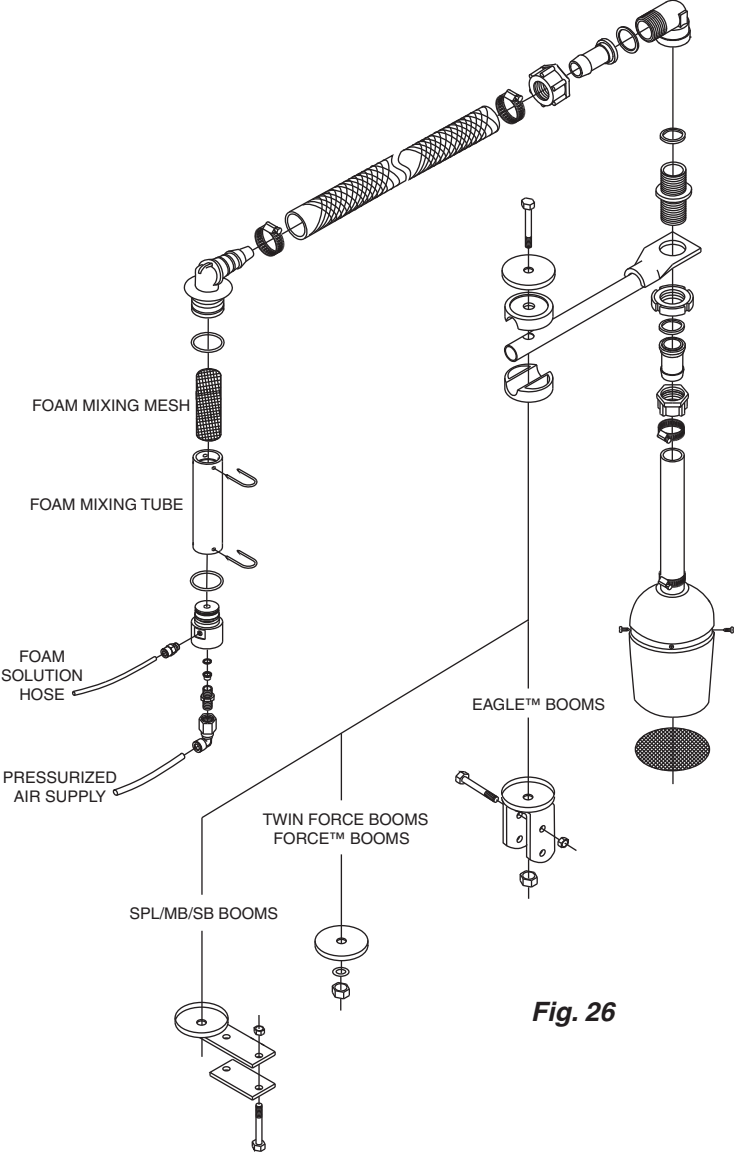

Fig. 26
Hose #3 (8mm), Brings foam solution from the compressor box out to the foam generators on the outer wing. (Refer to Fig. 26 for installation of hoses in foam generator).
Hose #4 (10mm), Brings pressurized air from the compressor box out to the foam generators on the outer wing. (Refer to Fig. 26 for installation of these hoses in foam generator).
- These components are to substitute the mount bracket which is fitted to the Foam Dropper assembly. Mount the new components as shown in (Fig. 26) and discard the unused components.